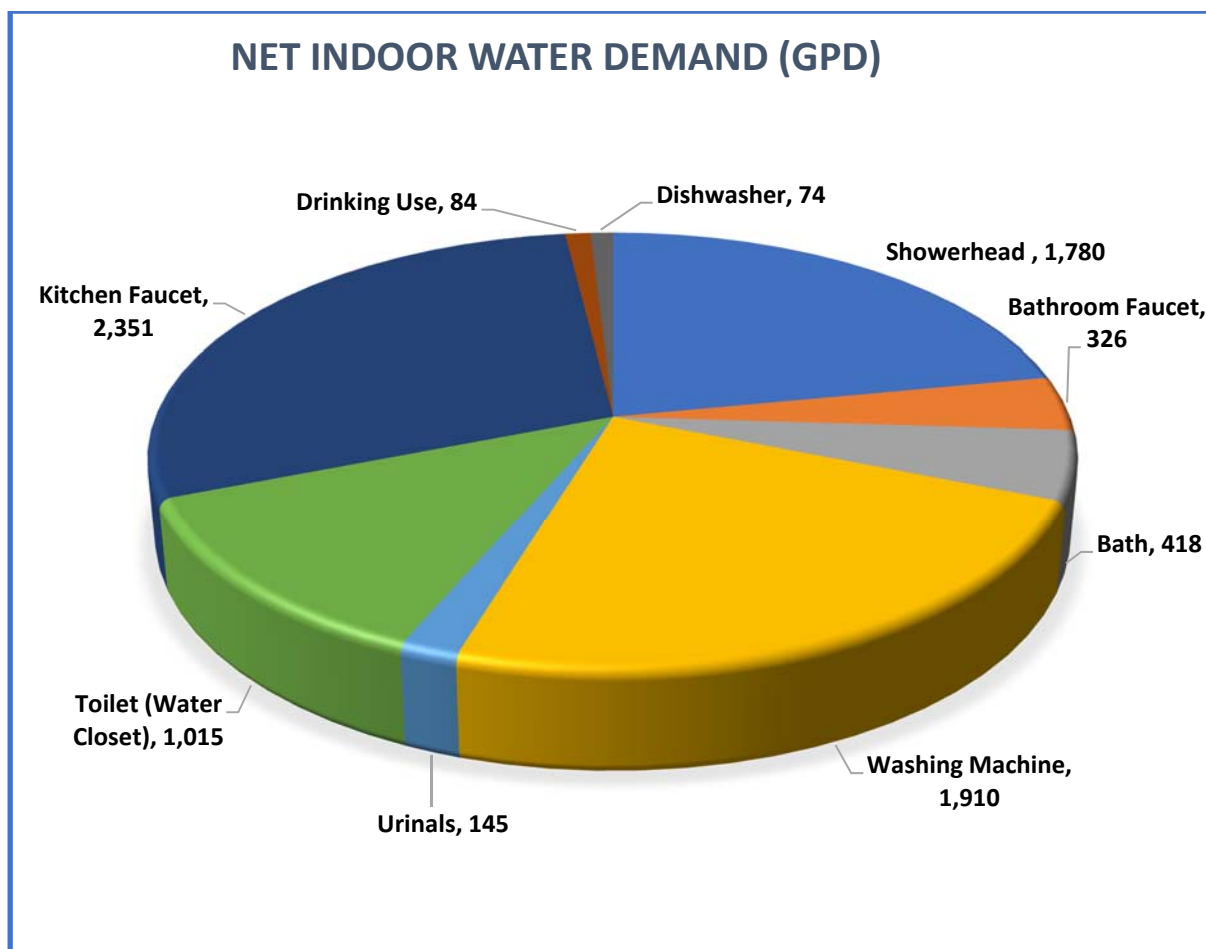

Figure A1. Net indoor water demand for various uses
- Graph of net indoor daily demand is attached in appendix II as Figure A1.